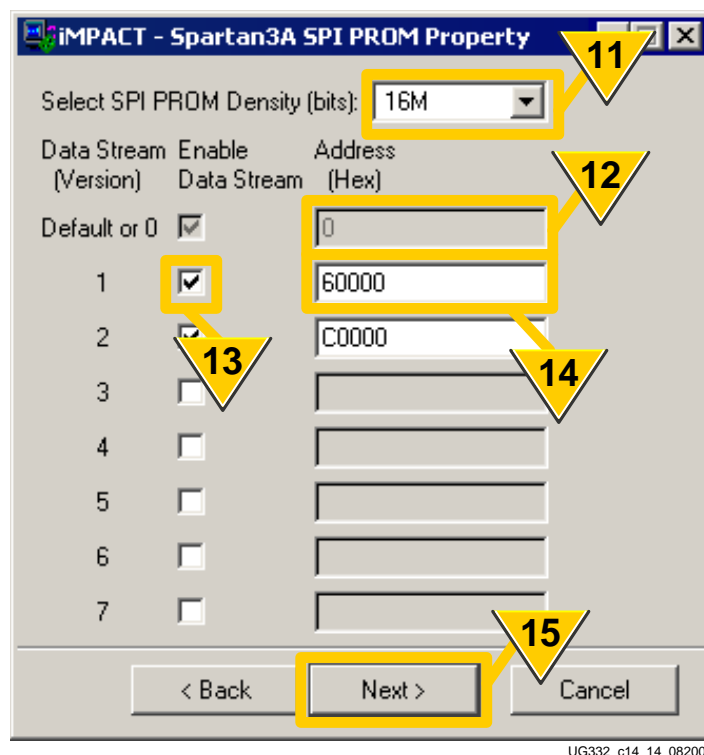

Figure 14-15: Enter a PROM Density and Specify MultiBoot Image Start Locations
11. As shown in Figure 14-15, Select SPI PROM Density, which is always specified in bits. This example uses a 16 Mbit PROM.